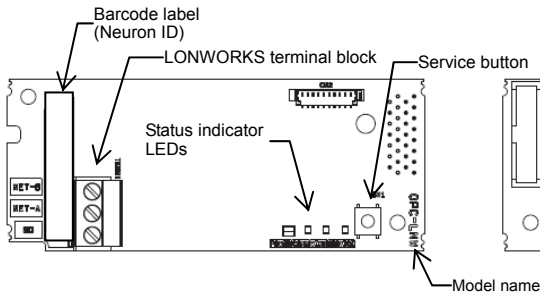

Figure 2-1 Front of the Interface Card
- (1) A LONWORKS interface card is contained in the package.
- (2) The interface card has not been damaged during transportation--no defective electronic devices, dents, or warp.
- (3) The model name "OPC-LNW" is printed on the interface card. (See Figure 2-1.)
- (4) A barcode label (representing Neuron ID) is attached to the interface card. Another barcode label (not attached to the card) comes with the card.